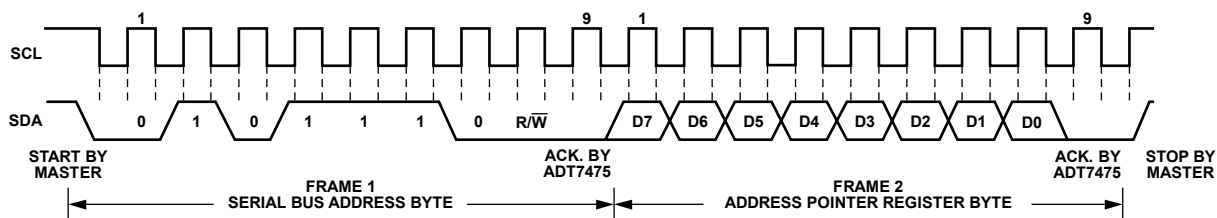

Figure 15. Writing to the Address Pointer Register Only
- If the ADT7475's address pointer register value is unknown or not the desired value, it must first be set to the correct value before data can be read from the desired data register. This is done by performing a write to the ADT7475 as before, but only the data byte containing the register address is sent, because no data is written to the register (see Figure 15).